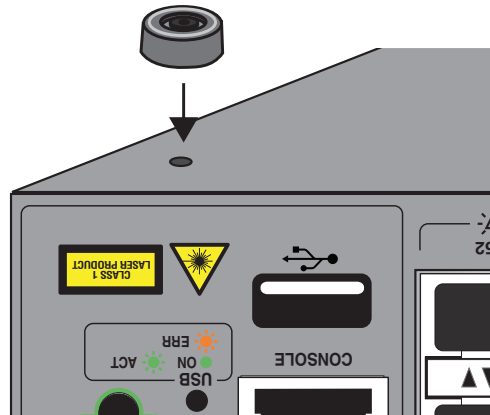

Figure 13. Placing the Bumper Foot on a Base Corner Hole
3. Place the bumper foot with rivet housing onto one of the holes in the base of the switch. Refer to Figure 13.